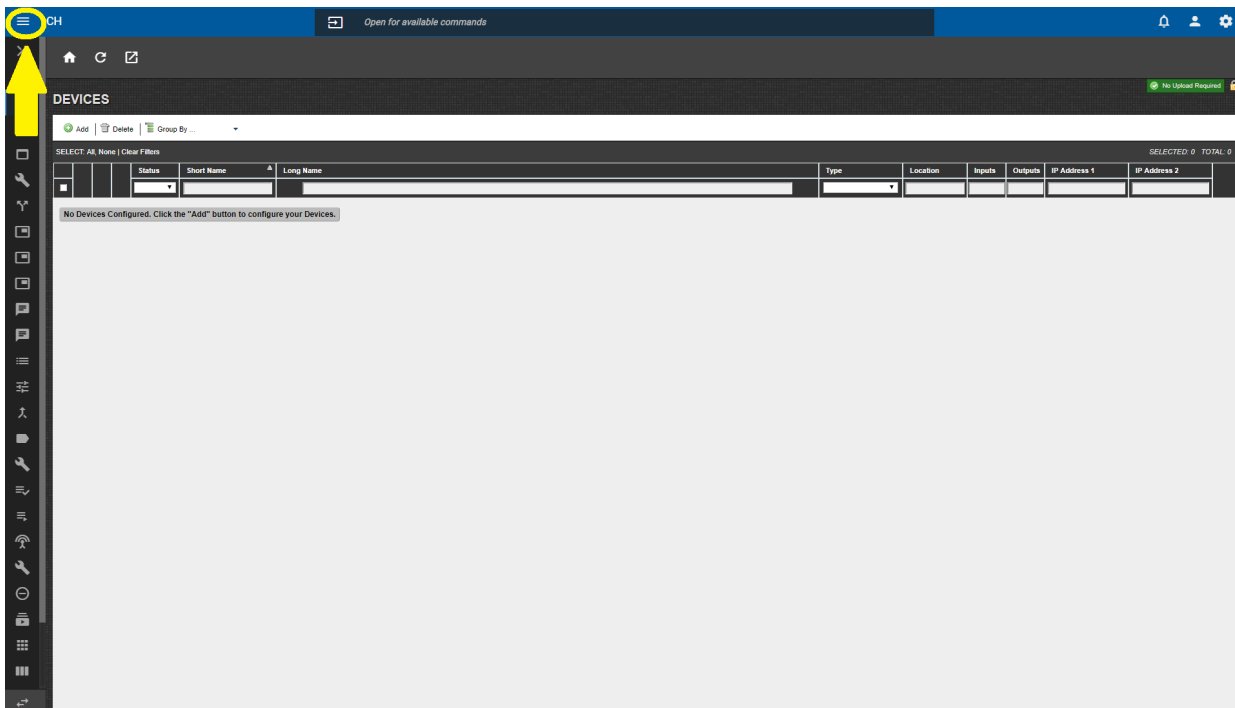

Figure 9-3 : MAGNUM - Expanding the Pane
4. If navigation pane is collapsed, click the icon at the top-left of the page to expand the pane as highlighted in Figure 9-3.